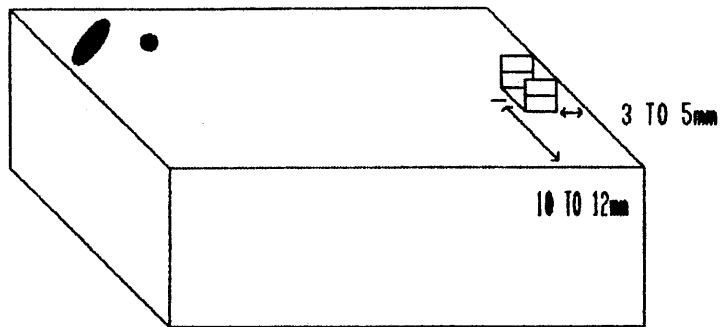

FIGURE 2
5. On the PLL unit, solder a spring (part number F10-1206-04) to the TX VCO shield (see figure 2). The spring must make firm contact with the bottom cover when installed.